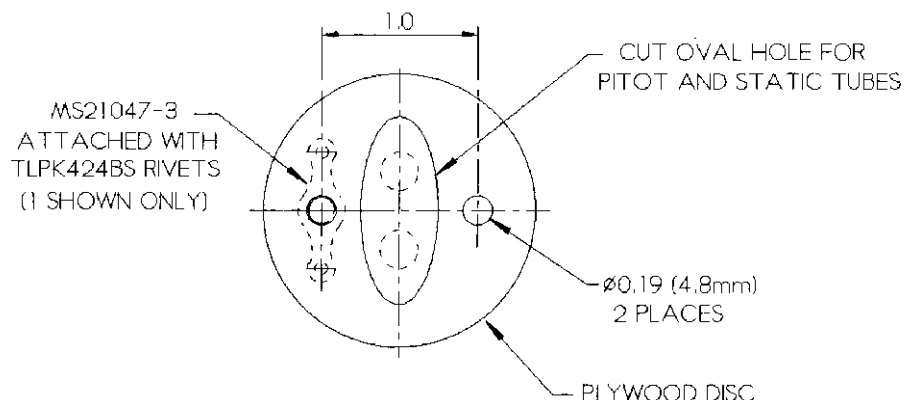

Fig 1. Pitot/static mounting block.
3. Cut the plywood supplied to make a disc with an outside diameter of 45 mm (1 3/4") and trim to fit in the hole cut in the wing. Cut out an oval hole as shown in figure 1. Drill through the plywood 2 holes 4.8 mm diameter 1" apart, countersink the holes, and fit the two MS21047-3 anchor nuts, using TLPK424BS pop rivets.